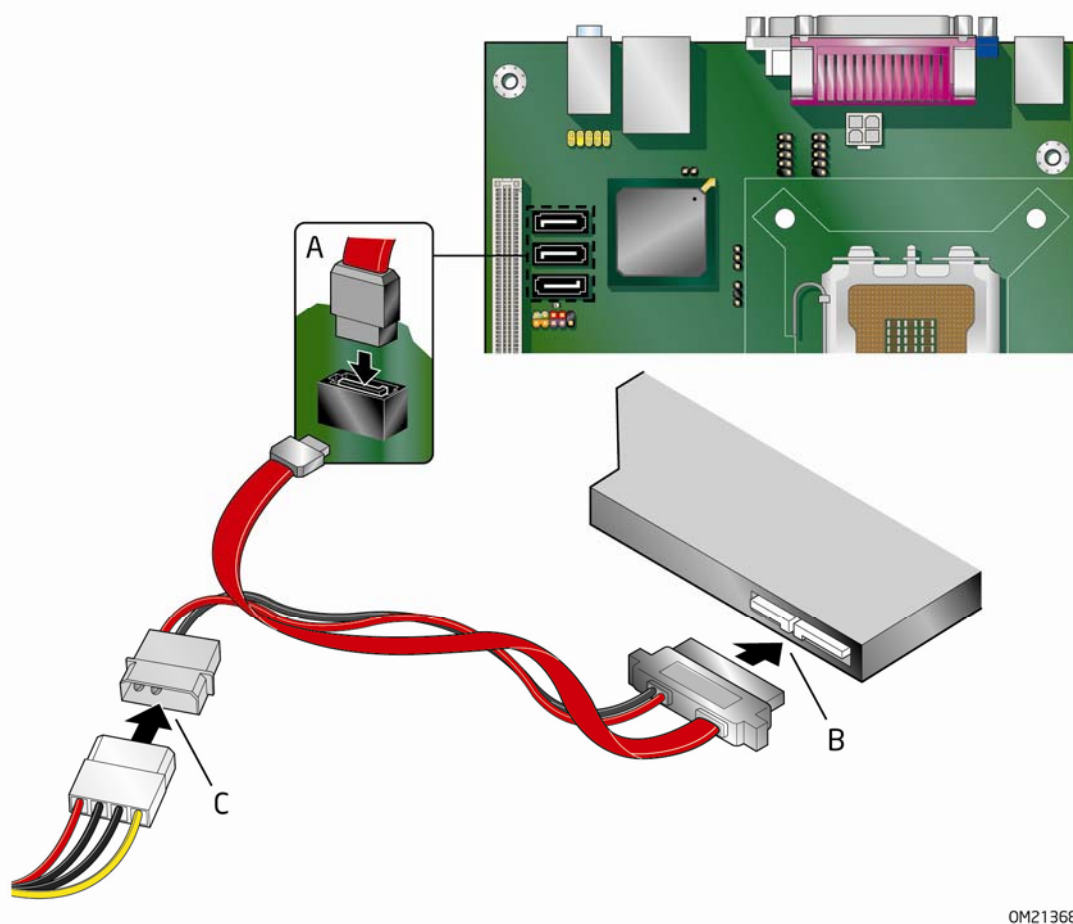

Figure 17. Using the SATA-to-Slimline SATA Adapter Cable
2. Attach the adapter cable's standard SATA data connector (Figure 17, A) to one of the SATA data connectors on the Desktop Board and attach the adaptor cable's Slimline connector to the corresponding connector (Figure 17, B) on the Slimline SATA drive.
3. Connect the adapter cable's power connector (Figure 17, C) to a 4-pin 5 V Molex power connector from the chassis power supply.